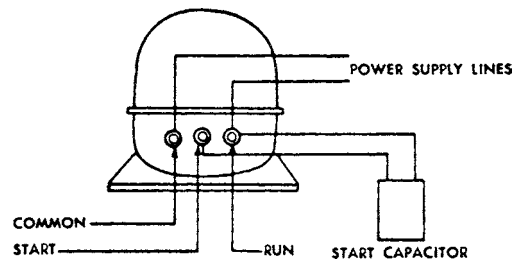

Fig. 12-31 Location of start capacitor in a circuit. (Tecumseh)
- b. Using proper start capacitor from the manufacturer's chart, connect one capacitor terminal to R. Let the lead from the other capacitor terminal dangle loose. See Fig. 12-31.